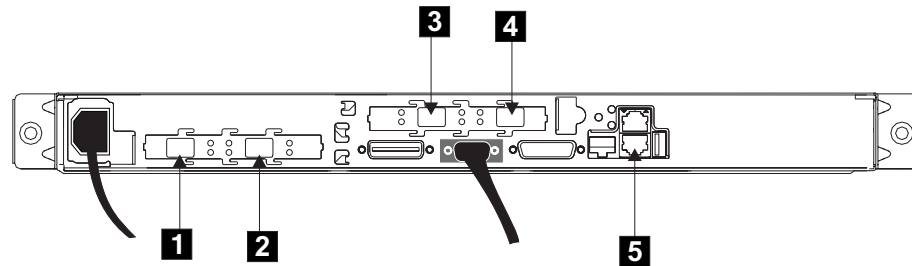

Figure 33. Connectors at the back of the SAN Volume Controller
1. **Attention:** You must use only Ethernet port 1 on the SAN Volume Controller. The software is configured only for Ethernet port 1. Connect the Ethernet cable to the Ethernet port 1 connector **5** (see Figure 33).